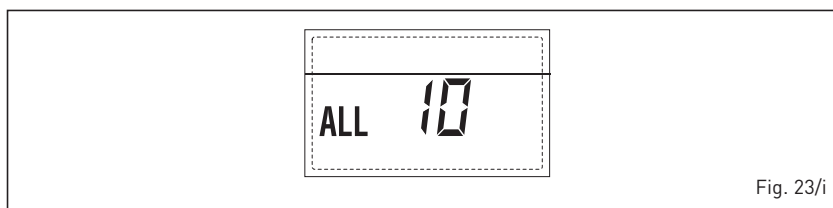

Fig. 23/i
– **ACTIVATION OF THE EXHAUST TEMPERATURE SENSOR "ALL 13" (fig. 23/j)**